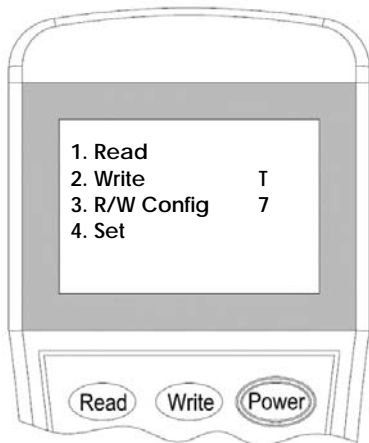

Figure 10
3. Switch-on the programmer, then press button **"3"** to enter to Configuration mode (Figure 10).